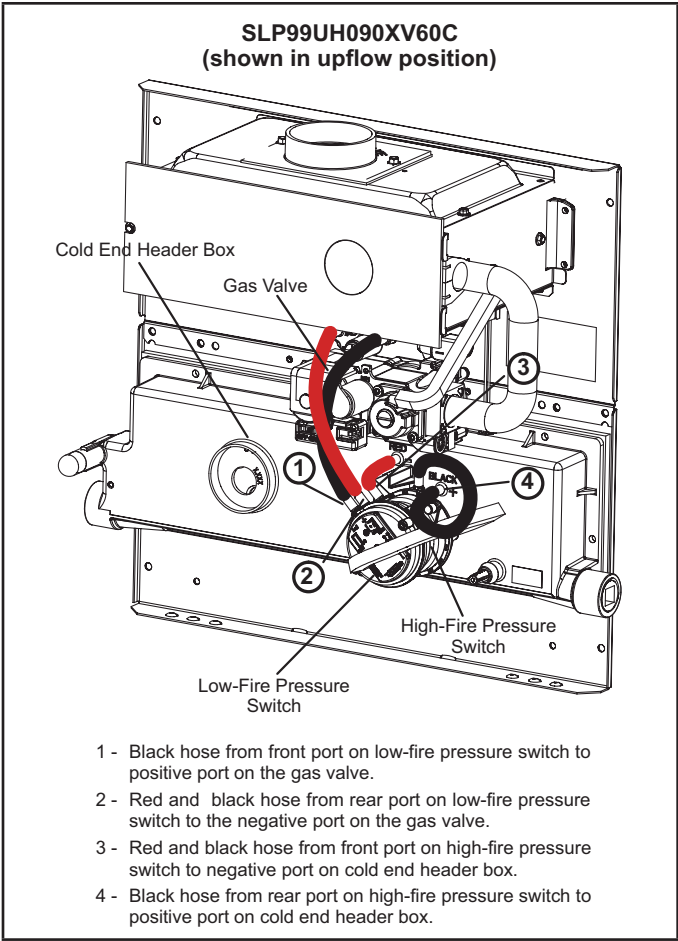

FIGURE 2
- 6 - Install replacement pressure switch. Reconnect pressure switch tubing as shown in figure 2.